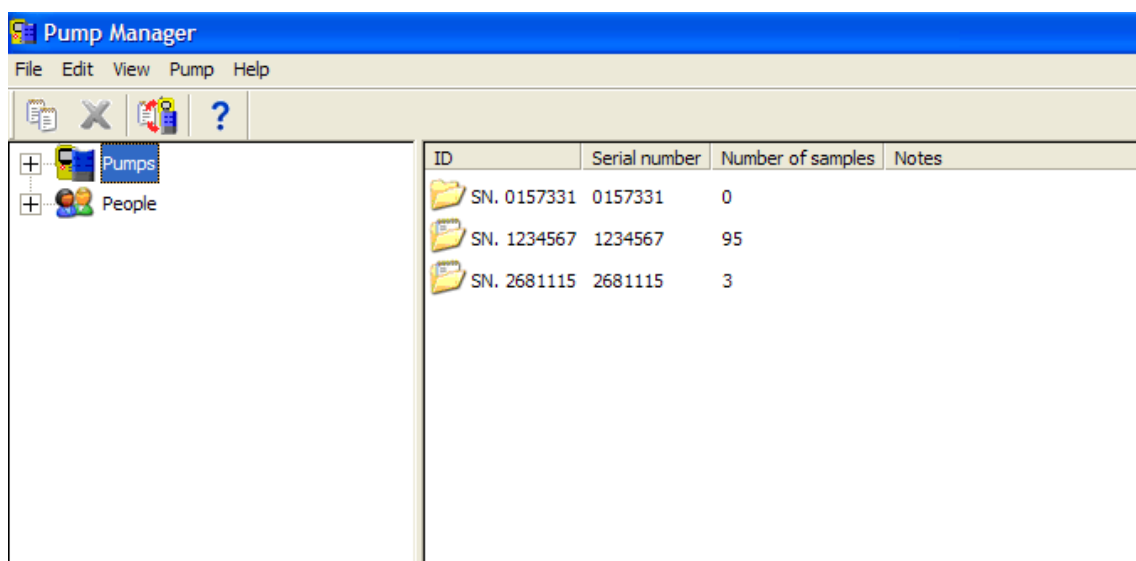

Figure 32 Pump Manager Window
The Pump Manager top level window (Fig. 32) will be displayed.
2. With the 'Use USB interface' option ticked, Pump Manager will automatically detect the presence of a Casella IR Interface and use it to communicate with the pump. If program is run without USB IR device fitted the following screen will be seen (Fig. 32):